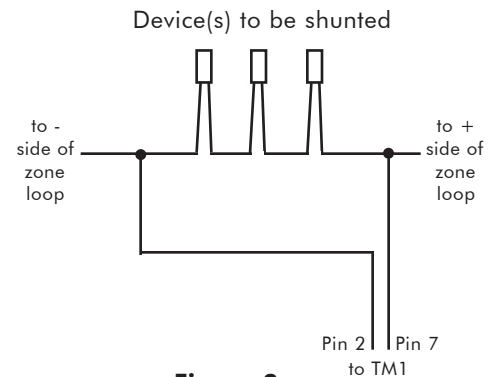

Figure 3.
**RECESSED VERSION (SB-2000):** The recessed version of the Shunt Switch is designed to fit in a single gang utility box. Run the wires from the door sensor switch(es) into the utility box. Attach the wires to terminal TM1 pins 2(-) and 7 (+) (See Figure 3). Connect positive side of the control panel to pin 7 and the negative side to pin 2. Using an external 12 volt DC supply, run the wires from the power source to the unit and attach the positive voltage to pin 1 and ground to pin 2 of terminal TM1. If battery backup is desired, install a standard 9 volt battery in the battery holder on the back of the Shunt Switch. The LED will flash twice during power up, and then a third time 5 seconds later indicating a successful diagnostics test. Finally, insert the Shunt Switch into the utility box with the button toward the bottom and the LED toward the top. Secure wall plate with the two screws provided.
**SURFACE MOUNT VERSION (SB-2001):** Remove the Shunt Switch from the surface mount case. A knockout is provided on the back of the case for wire access. Attach the surface mount case directly to the wall, or it may be mounted to cover a single gang electrical box. Attach the door switch wires to terminal TM1 pins 2(-) and 7(+) (See Figure 3). Connect positive side of the control panel to pin 7 and the negative side to pin 2. Using an external 12 volt DC supply, run the wires from the power source to the alarm unit and attach the positive voltage to pin 1 and ground to pin 2 of terminal TM1. If battery backup is desired, connect a standard 9 volt battery to the battery connector. The LED will flash twice during power up, and then a third time 5 seconds later indicating a successful diagnostics test. Lay the battery in the bottom of the case and reassemble the Shunt Switch with the button toward the bottom of the case and the LED toward the top. Secure face plate with the two screws provided.